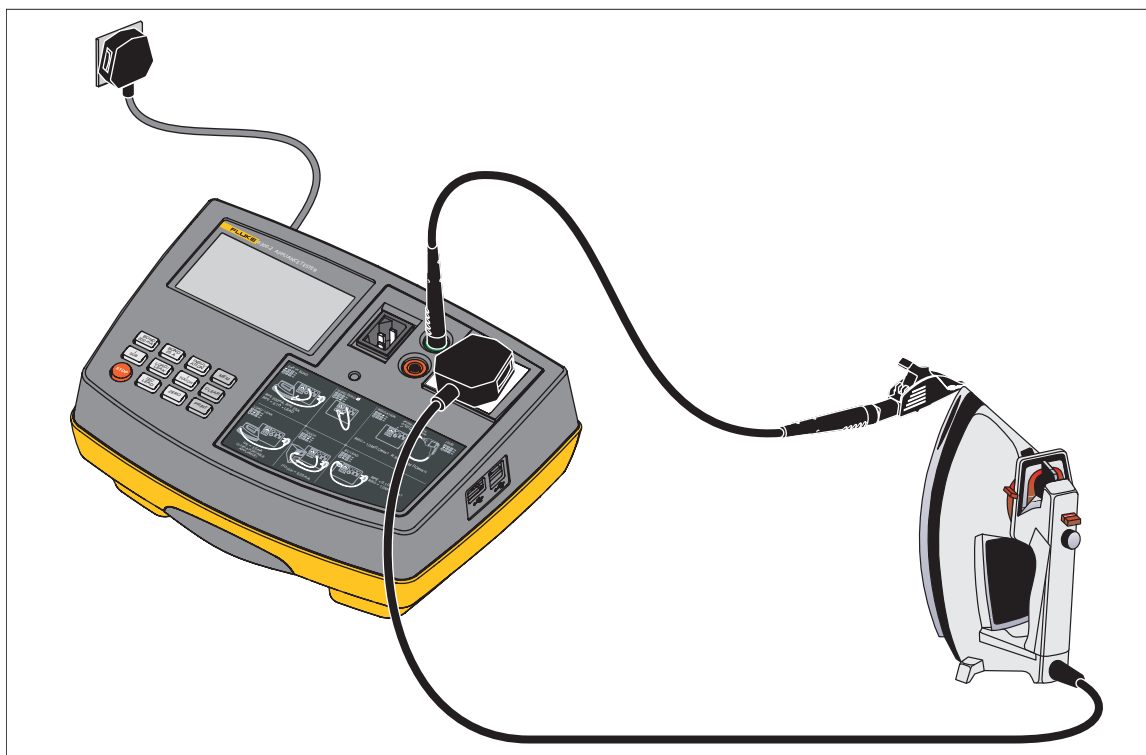

Figure 2. Bond Test Connections
1. Connect the appliance and the earth bond test lead as indicated on the Tester, see Figure 2. Connect the crocodile clip to an exposed conductive part on the appliance. Do not use the probe for a bond test >10 A. The probe is rated for 10 A only.